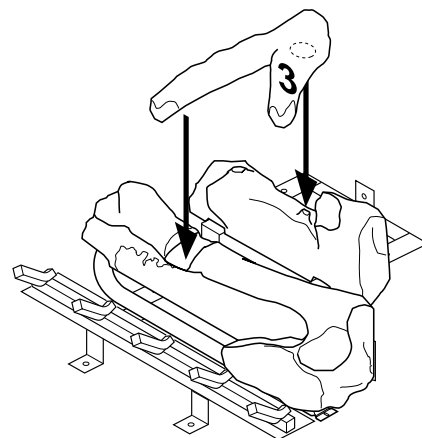

Figure 47 - Installing Log No. 3
3. Place log #3 (crossover log) onto the rear and front logs. Make sure it is seated properly into the notch on the front log and over the raised triangular portion of the rear log as shown in Figure 47.